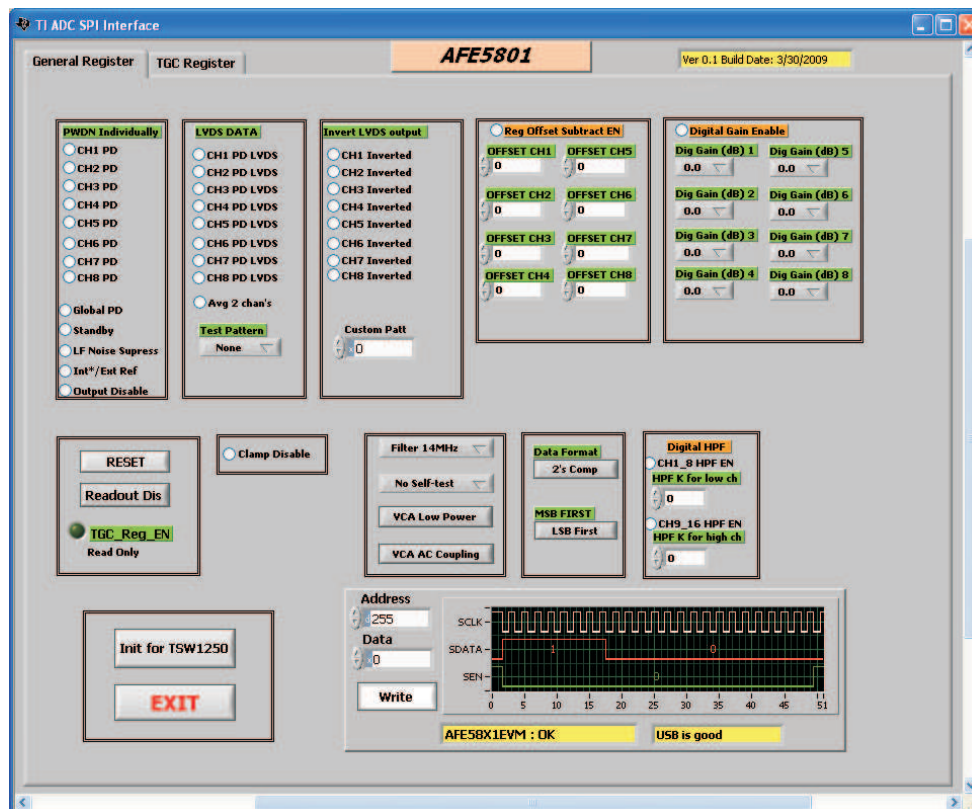
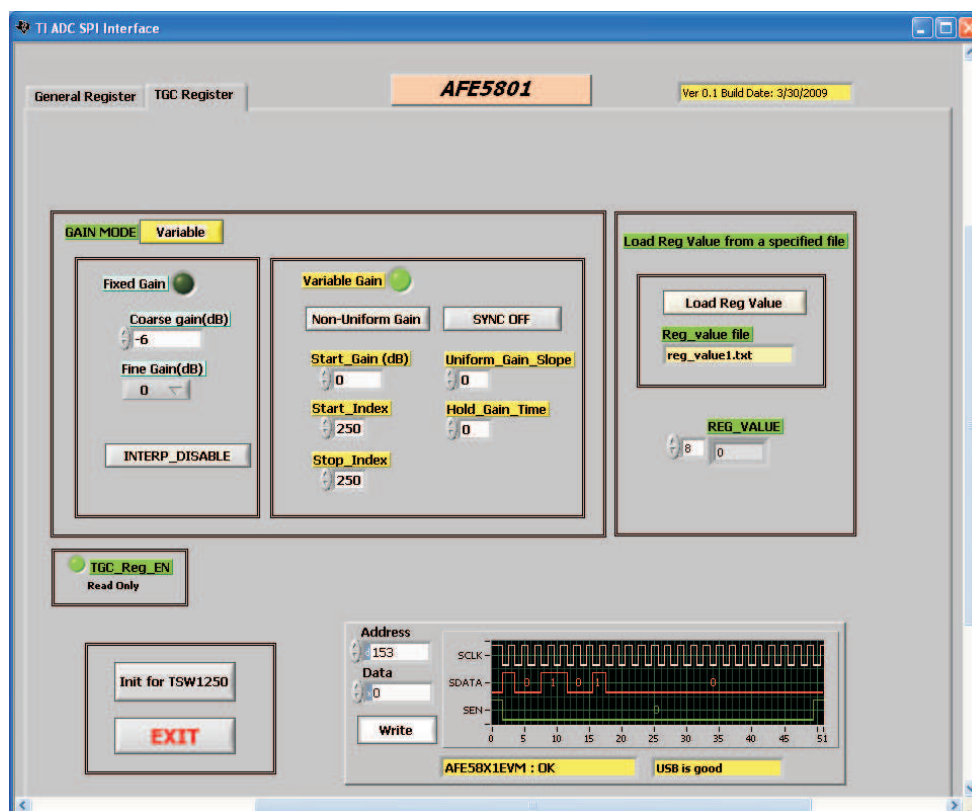

Figure 9. AFE5801EVM USB SPI Interface for General Registers.
Figure 11. AFE5801EVM USB SPI Interface for Variable Gain Mode
- Several different screens appear displaying the different modes (Figure 9 through Figure 11)
- From Figure 9 press "Init for TSW1250" button
- From Figure 11, press "Variable" button to get into fixed gain mode